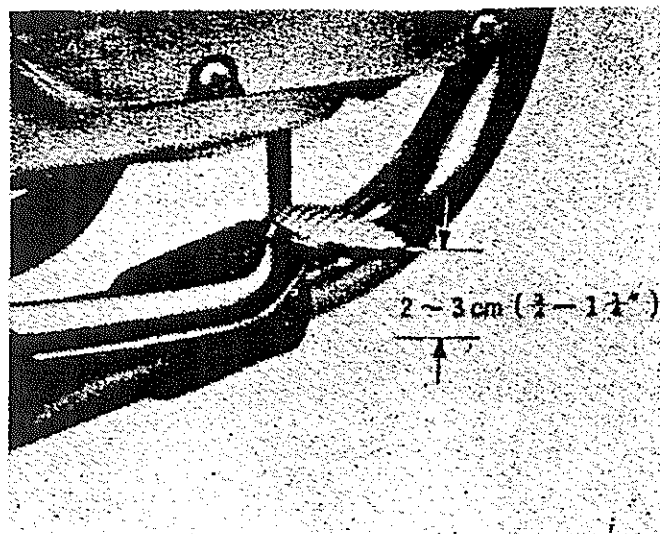

Fig. 19
b) With the adjusting lock nuts on front panel (Fig. 19)
- a) Rear brake should be adjusted so that brake pedal can be depressed 20-30 mm (1—1¼") before brake acts. (Fig. 19)